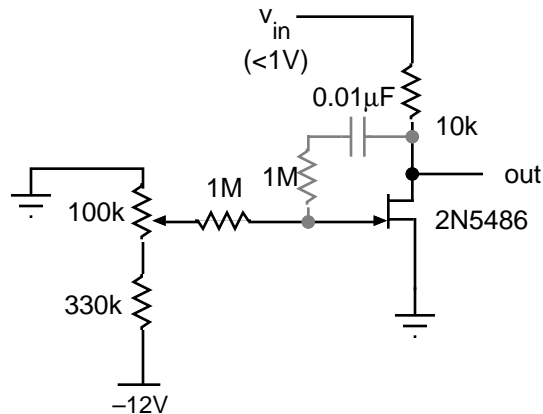

Fig. 7.4
a) Build the circuit of Fig. 7.4 without the shaded components. Drive it with a small sine wave of about 0.2V amplitude at 1 kHz. Notice what happens to the gain and the distortion when you adjust the potentiometer. The distortion is clearer if you drive the circuit with a triangle wave. Explain the distortion.